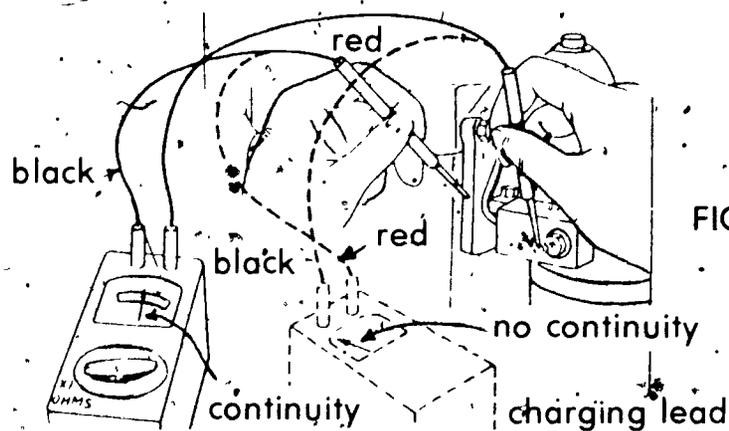

FIGURE 4
1. Test half-wave rectifier (Figure 4)